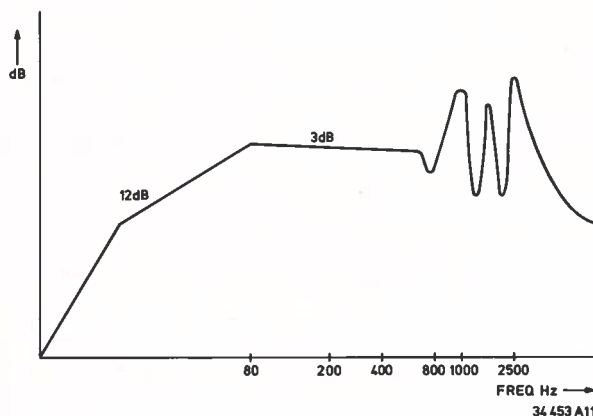

Fig. 1
- 3) Behaves erratically from $> 800\text{ Hz}$ due to breaking-up of the cone (1000 Hz) and resonances of the cone and the record element (2800 Hz). See Fig. 1.